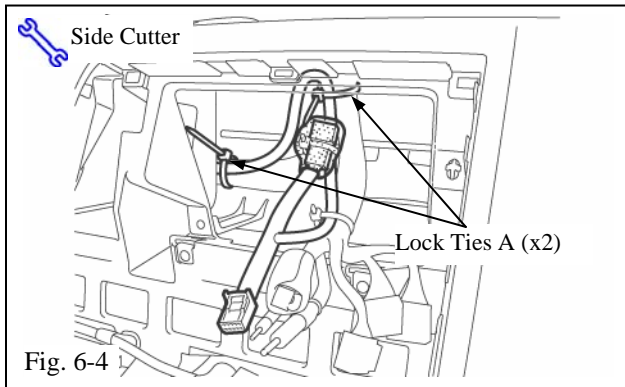

Fig. 6-4
- (g) Secure the tuner cable with the two (2) lock ties A. (Fig. 6-4)